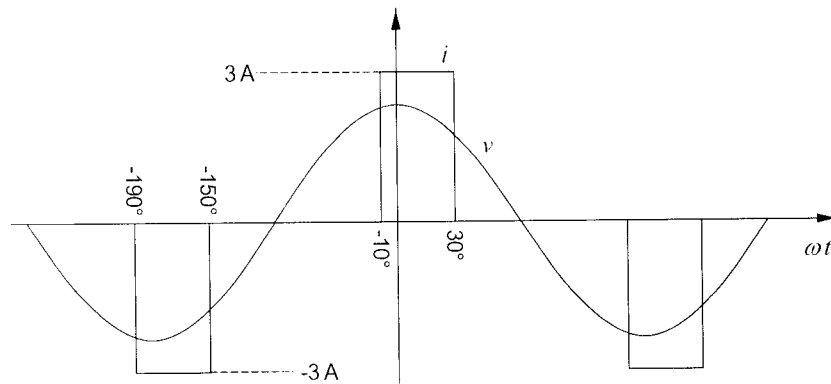

Figure 6
- (a) Figure 6 shows the waveform of AC side current of a rectifier and its relationship to the AC voltage.